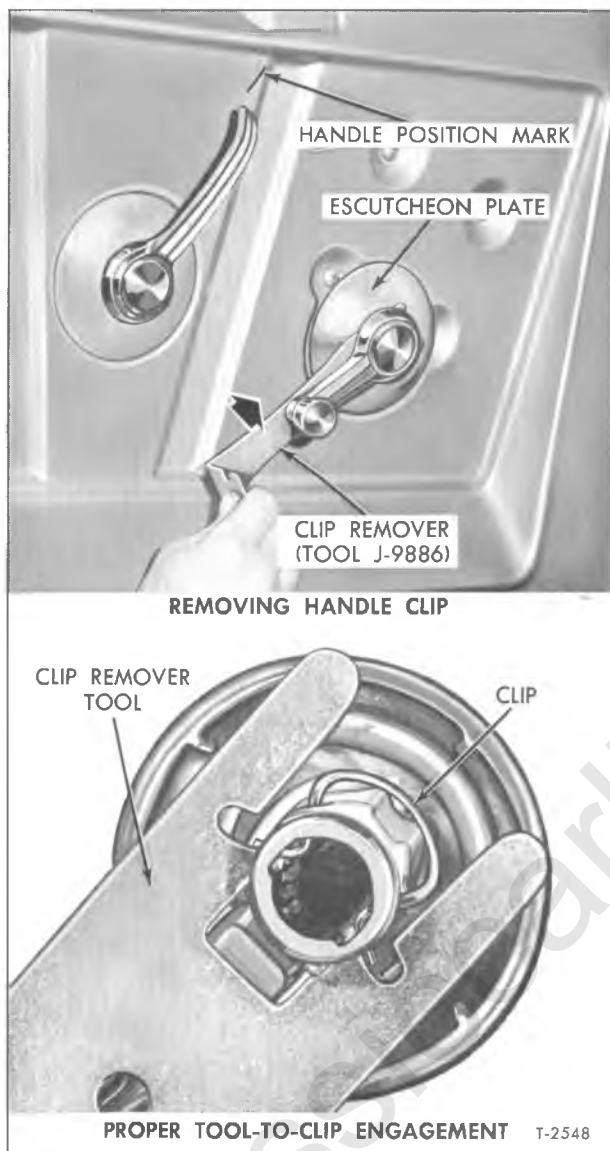

Figure 18—Door Inside Handle Replacement
If removing door inside handle, the handle position should be marked in relation to door panel to assure that handle is installed later at the same operating angle. See figure 18 which shows proper handle position.
1. Insert tool (J-9886) between handle flange and escutcheon plate as shown in figure 18.
NOTE: The lower view in figure 18 shows how the tool engages the clip at underside of handle when removing.
1. Insert lock spring in handle grooves from direction shown in figure 18.